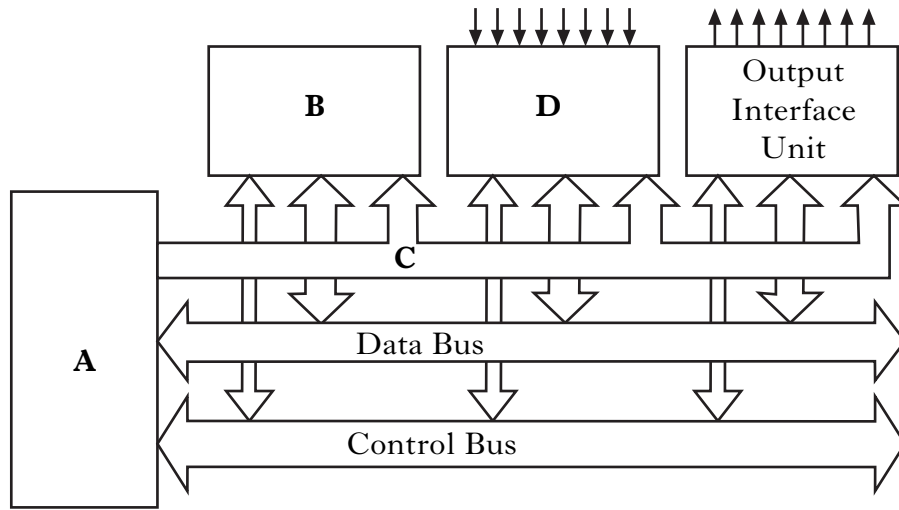

Figure Q4(a)
4. (a) Figure Q4(a) illustrates the basic architecture of a microcontroller. Some elements have been identified with the letters A to D. On **Worksheet Q4**, complete Table Q4(a) by entering the names of the elements labelled A to D. 2